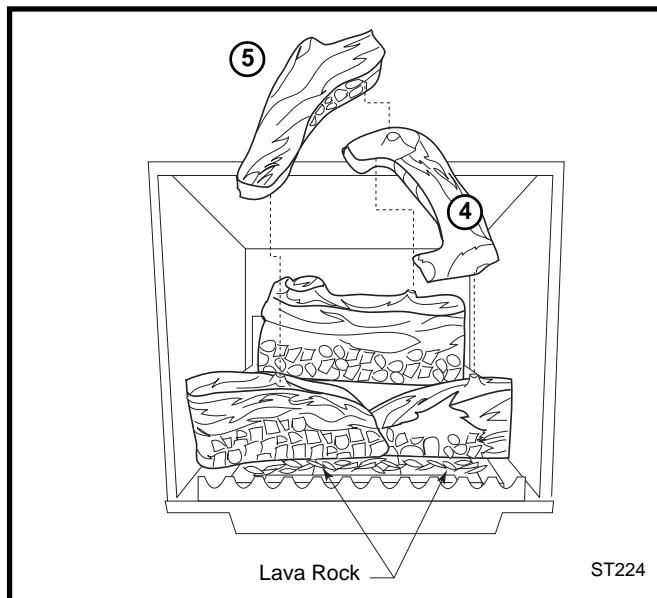

Fig. 35 Install lava rock and upper logs.
4. Loosely sprinkle the lava rocks directly on top of the burner between the decorative grate and the middle logs. Do not place any ember material behind the middle logs. (Fig. 35)
5. Engage the upper log (4) with the rear log and the right middle log as shown in Figure 35. Engage the top log (5) with the upper log and the left middle log. (Fig. 35)